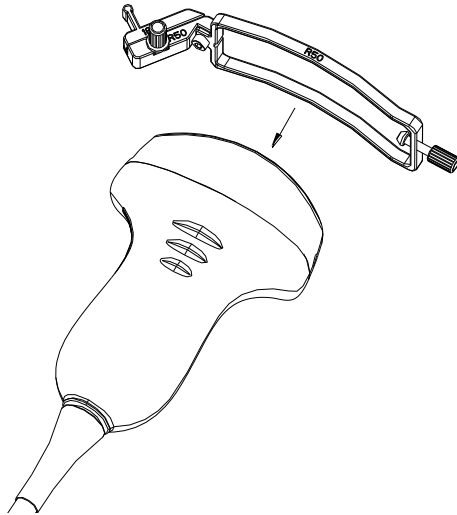
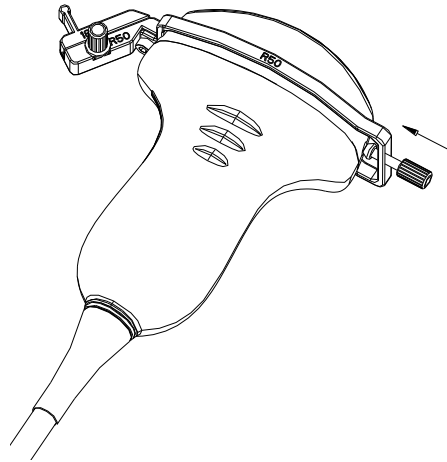

Figure 6-31 Attaching Bracket Kit to Probe
Figure 6-32 Turning Knob 2 Clockwise
Step 3: Attach the needle guide bracket kit to the matching probe by placing the bracket over the head of the probe until it locks in place, as shown in Figure 6-31. Ensure that the rectangular slot of the bracket catch in the convex at the probe tip; ensure that the cone of knob 2 catch in the notch at the probe tip; and then turn the knob 2 clockwise until it locks in place, as the arrow direction shown in Figure 6-32.